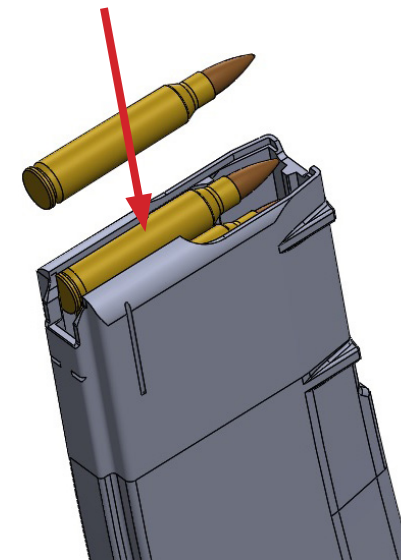

Fig. b-1
2. Insert cartridges into the magazine by pressing the cartridge (parallel to the magazine) downwards into the magazine. Ensure the face of the cartridge is at the rear-most position inside the magazine. (Fig. b-1)
4. Ensuring the MDR is on "Safe" and pointed in a safe direction, insert the loaded magazine (bullets forward, Fig. b-1) into the magazine well until it is seated with an audible "click" sound. A quick tug down on the magazine is advisable to ensure it's locked in position.